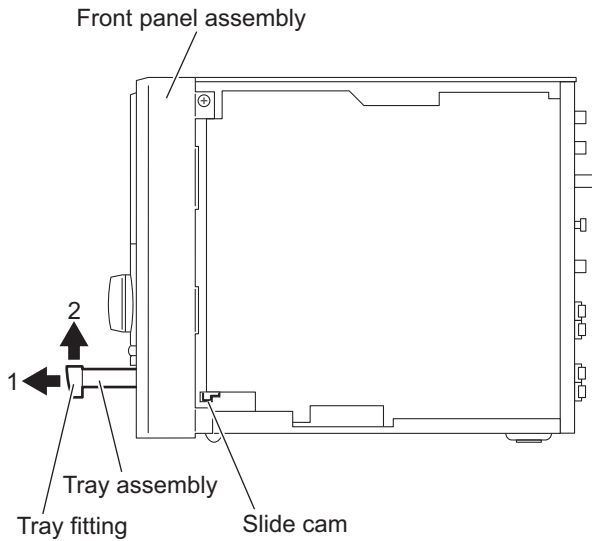

Fig.5
3.1.2 Removing the front panel assembly (See Figs.5 to 8)
- (1) From the right side of the main body, push the slide cam and pull the tray out of the main body in the direction of the arrow 1. (See Fig.5.)
- (2) Remove the tray fitting from the tray in the direction of the arrow 2. (See Fig.5.)